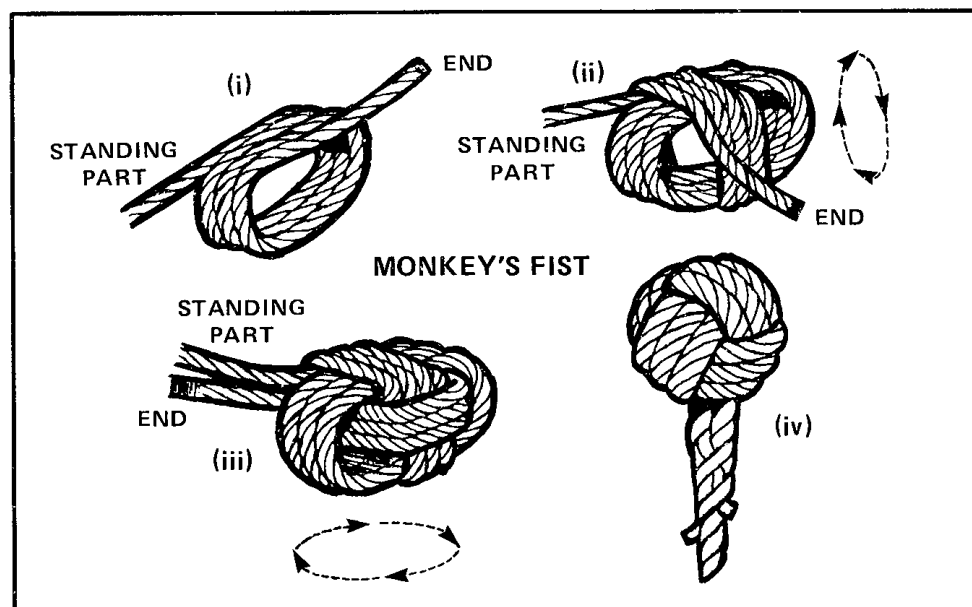

Figure 4-53 Monkey's Fist
- a. wind three turns round the hand, as in Figure 4-53(i);
- b. pass a second set of three turns across and around the first three, in the direction indicated by the arrows in Figure 4-53(ii); and
- c. pass a third three turns round and across the second three, but inside the first set and in the direction shown by the arrows in Figure 4-53(iii); if the knot is correctly made the end will come out alongside the standing part.